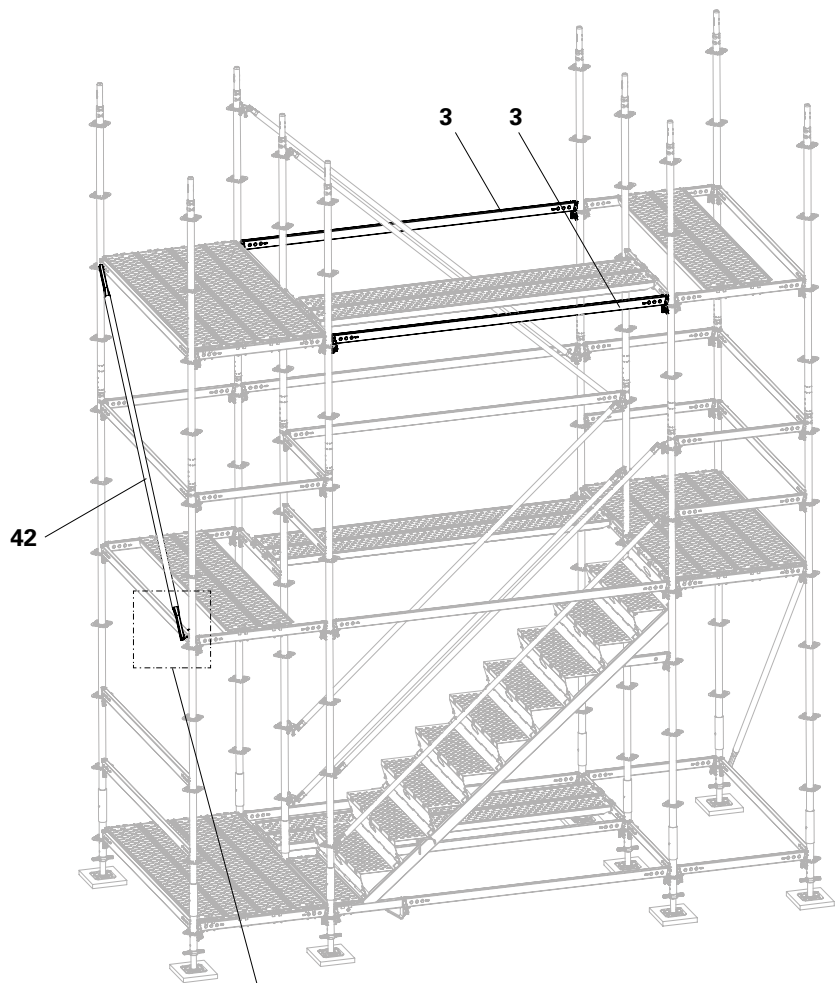

Fig. A3.03
3. Fit Horizontal Ledgers UH-2 250 (3) on the outside of the long sides.
4. Fit the Ledger Braces UBL-2 200/200 onto the sides of the platform with the mounting finger at the top and tilt finger at the bottom (42). (Fig. A3.03)